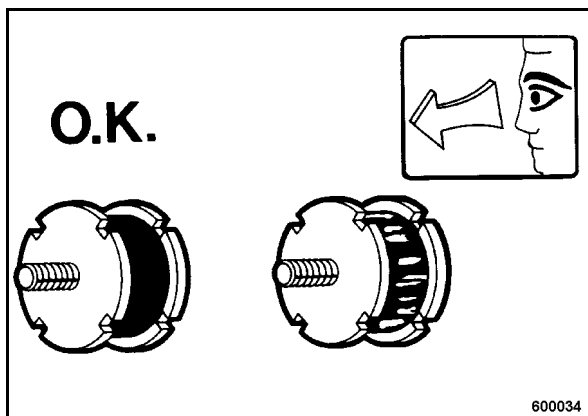

Fig. 66
- Check all rubber buffers (Fig. 66) for tight fit, cracks and damage and replace immediately if damaged.